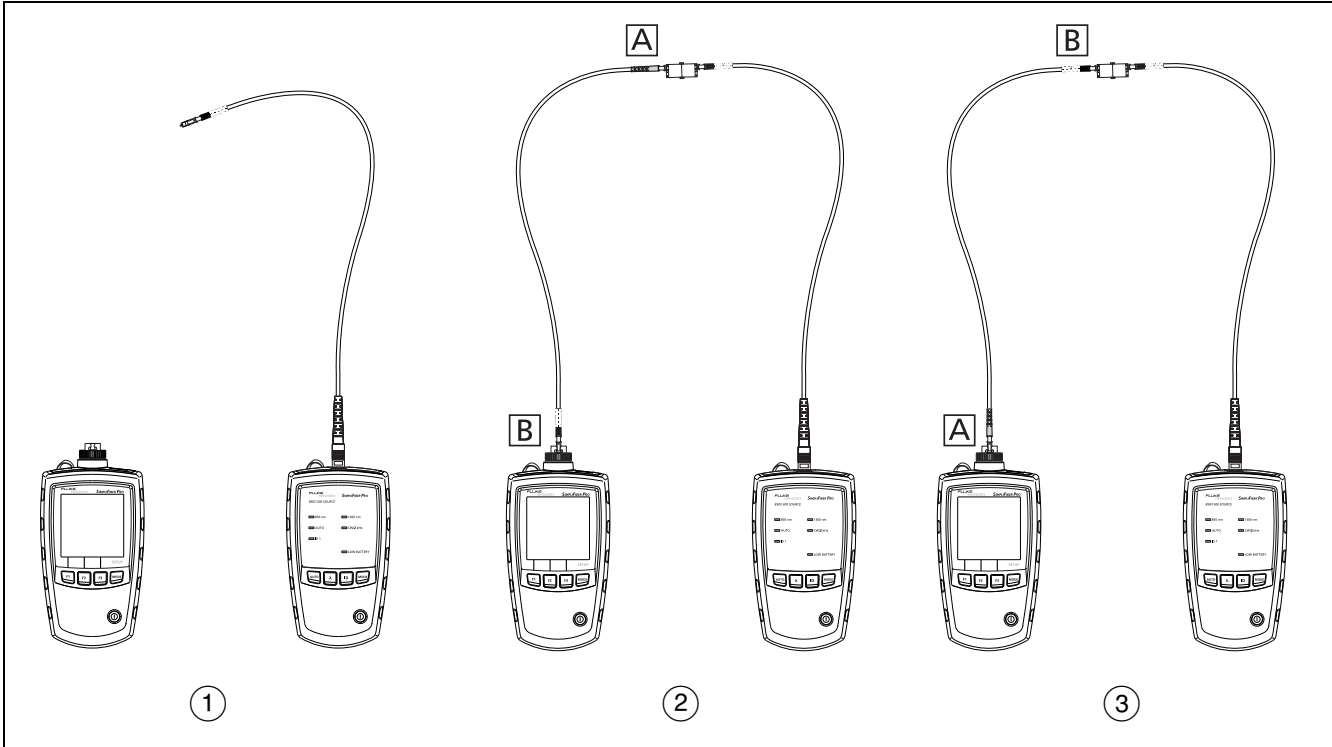

Figure A-3. Connections for Testing a Test Reference Cord
3-1 Disconnect the test reference cord from the meter (Figure A-3, ①).
3-2 Connect the cord you want test (Figure A-3, ②).
3-7 Connect the cord in the opposite direction (Figure A-3, ③), then repeat step 3-6.